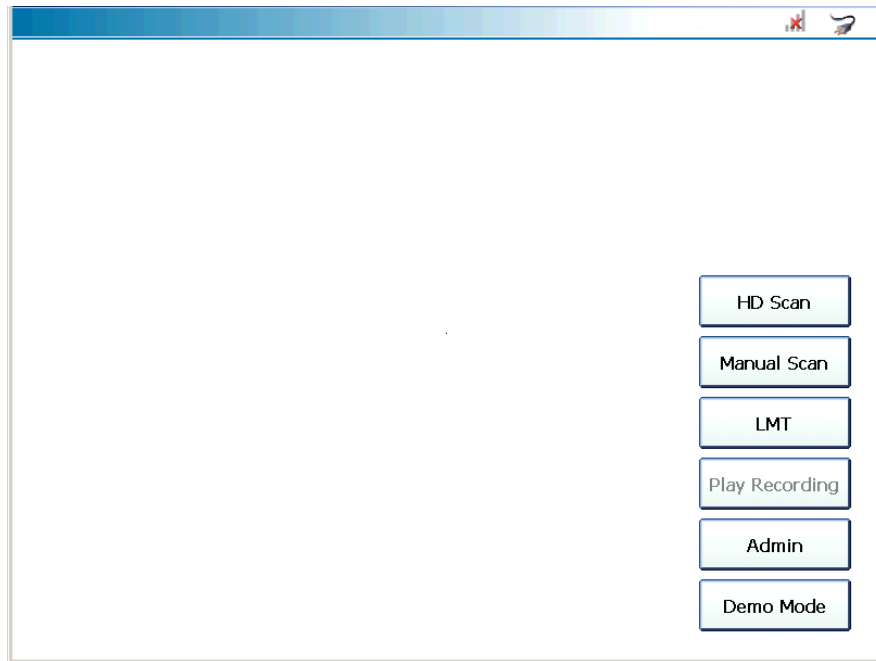

Figure 3.1 Main Menu
- 2 From the Main Menu (Figure 3.1), select one of the following:
If you selected HD Scan on the Main Menu (Figure 3.1), the device scans the vehicle to identify available modules; during this process the **Scanning Vehicle...** indicator light flashes yellow.
If you selected Manual Scan on the Main Menu (Figure 3.1), the following screen is displayed once initial scanning is complete.
If you selected LMT from the Main Menu (Figure 3.1), the following screen is displayed.